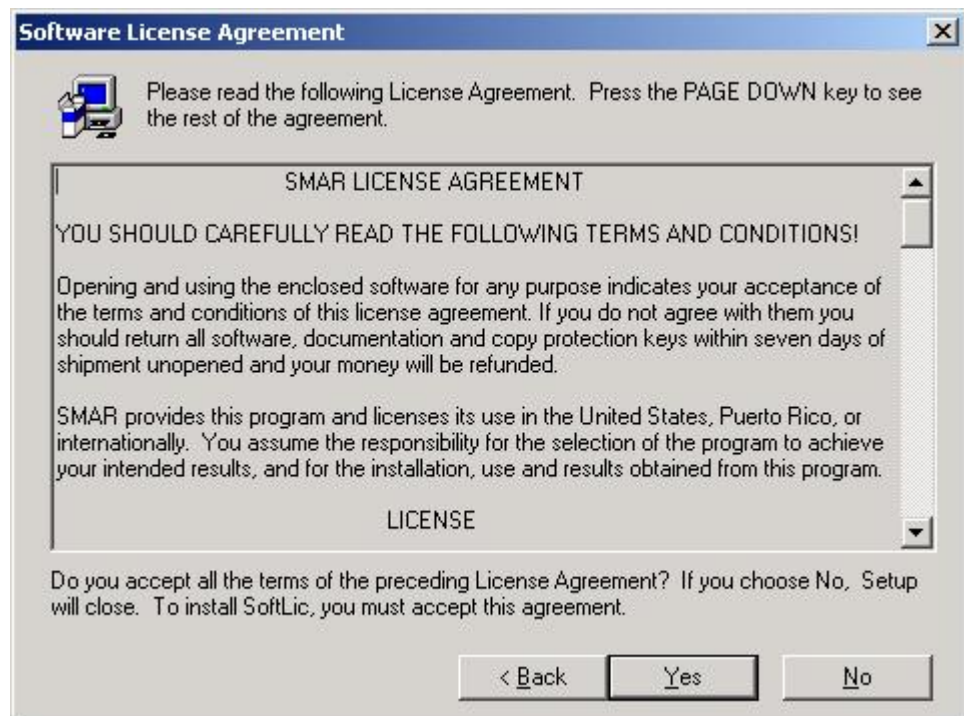

Figure 3.2. Software License Agreement
6. The **Software License Agreement** appears, as shown in **Figure 3.2**. If you accept the terms of the agreement, click **Yes**.